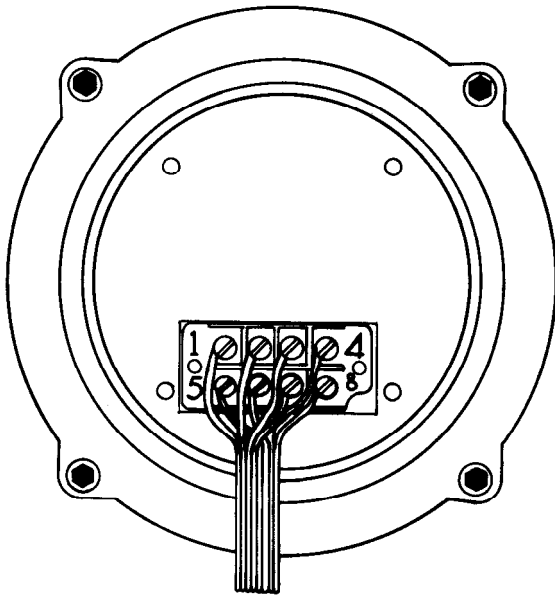

FIG. 4: ROTATOR WIRING
- C. With the control unit and the rotator on the work table, connect the cable between the rotator and control unit using the full length of cable that will be used in the installation. **IT IS IMPORTANT THAT #1 TERMINAL ON THE ROTATOR IS CONNECTED TO THE #1 TERMINAL ON THE CONTROL UNIT AND SO ON. NOTE:** The specifications call for **HEAVIER** gauge wire in two locations. **LEADS #1 and #2 must be HEAVIER GAUGE and less total lead resistance** (See specifications Page 11). Wire the control to the rotator as shown in figures 4 and 5.
- D. With the rotator sitting in the upright position and connected to the control unit, by the eight (8) wire cable, plug the control unit power cord into a 120 VAC 50/60 Hz wall receptacle.